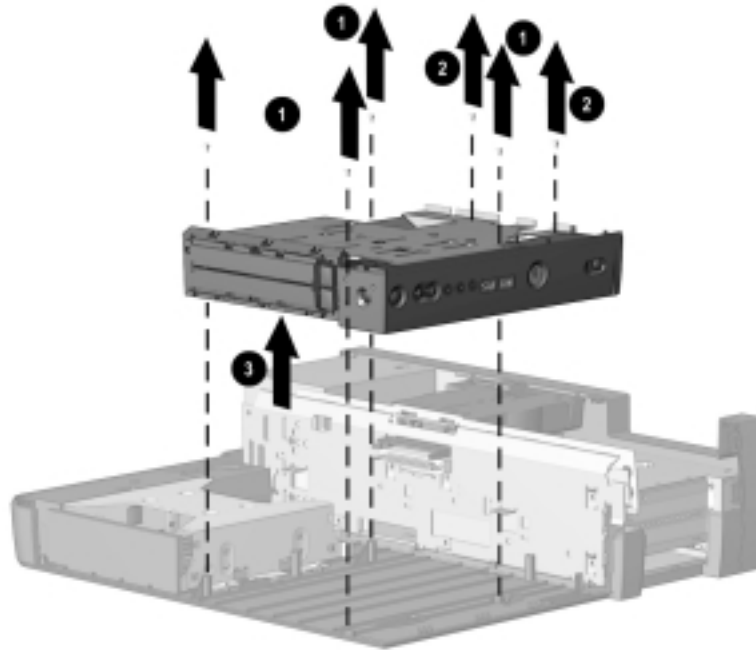

Figure 5-25. Removing the MultiBay and Control Panel
- Remove the six screws ❶ and ❷ that secure the MultiBay and control panel to the base cover (Figure 5-25).